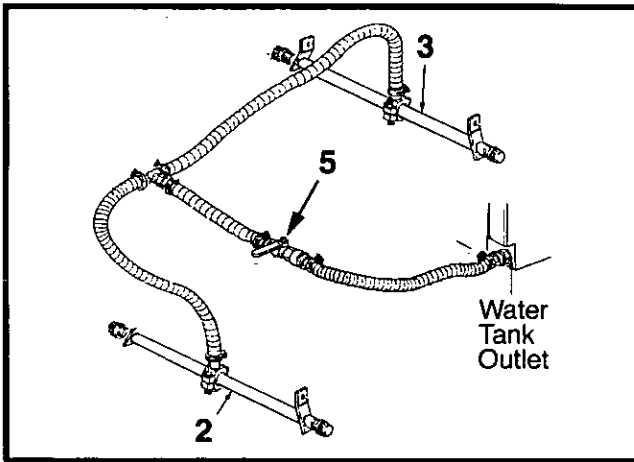

Figure 5-14 Water Sprinkler System.
1. Turn on the main water control valve (5, Figure 5-14).
2. Check that both drum sprinkler bars (2 and 3, Figure 5-14), are correctly functioning. Clean any jets that are blocked.